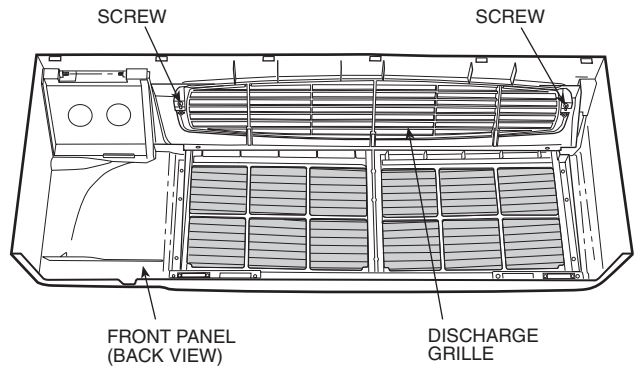

Fig. 3 — Back View of Front Panel
Step 3 — Remove air discharge grille by removing 2 screws on back of front panel. Save screws for later use. See Fig. 3.